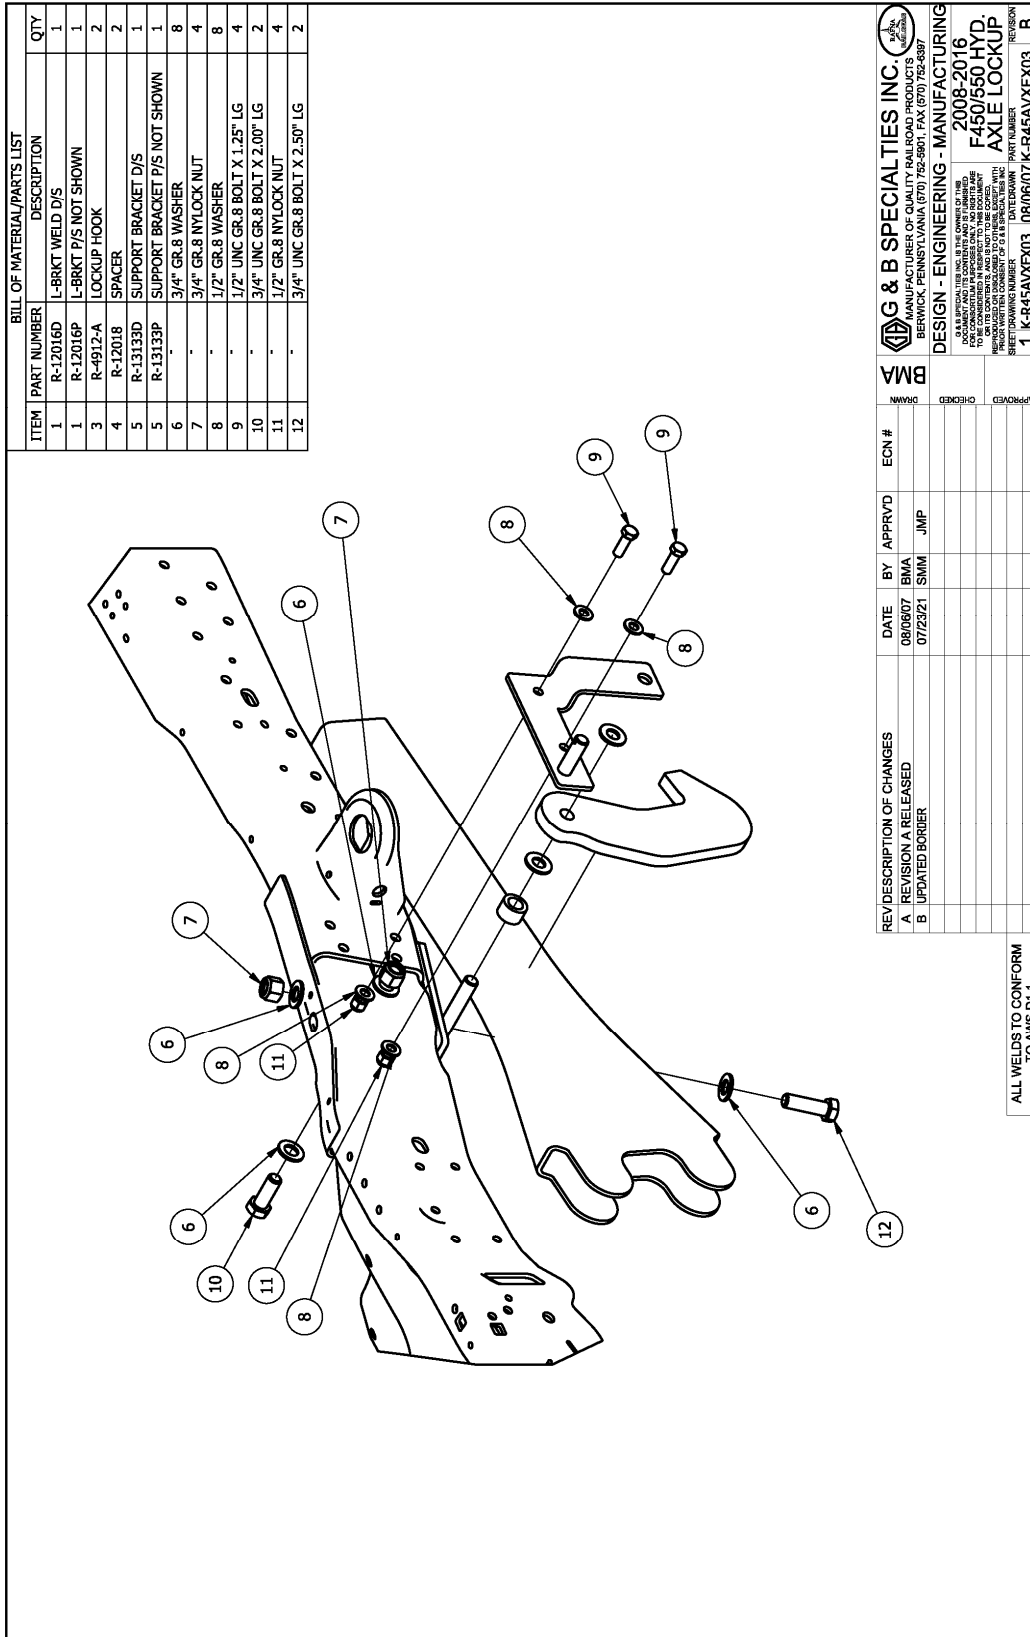

Figure 1
3. Position the L-Bracket Weldment on to the side of the frame, (Fig 1 & Fig 4), lining up the slot on the L-Bracket with the slot on the bottom of the frame and bolt with 3/4" x 2" long bolt and washers and nut. Mark and drill or mark and remove L-Bracket and drill a 13/16" diameter hole into existing small hole on the side of the frame. Use the supplied 3/4" x 2" bolt along with washers and nut to finish mounting L-Bracket to the frame. Make certain that the correct L-Bracket weldment is fastened to the correct side of the frame. Drivers side, (R-12016D), is fastened to the drivers' frame. Fig 6 shows drivers' side assembly for reference.
4. Continue assembling hook assembly using (Fig 1) as reference and for parts identification. If lateral adjustment is required item #4, spacer can be trimmed down, or washers can be added into assembly to maintain proper clearance with frame, suspension arm, and hook. For mounting of item #5, support bracket, two 17/32" holes must be drilled into side of the frame, (Fig 5), shows support bracket bolted to frame.